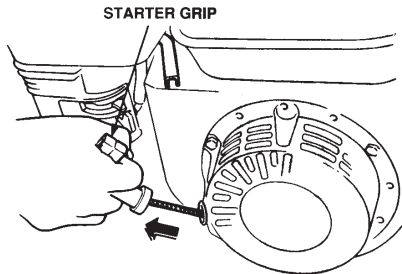

Figure 23. Starter Grip
5. Grasp the starter grip (Figure 23) and slowly pull it out. The resistance becomes the hardest at a certain position, corresponding to the compression point. Pull the starter grip briskly and smoothly for starting.